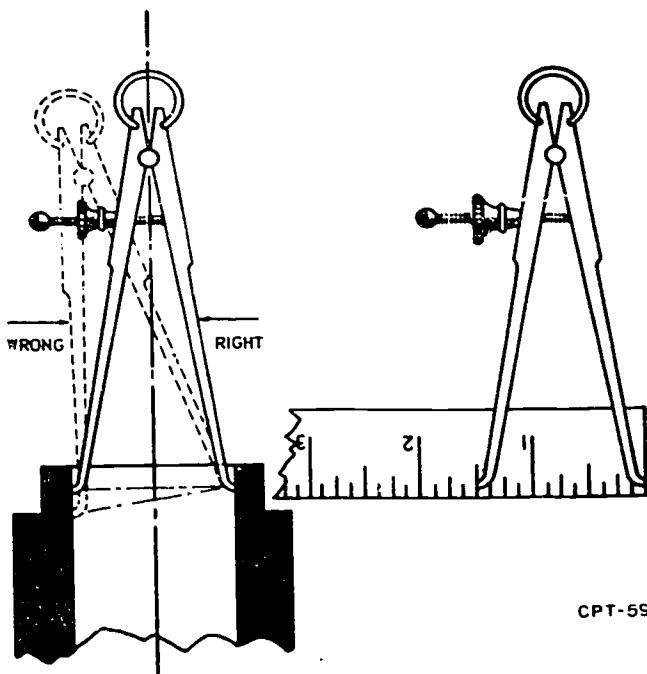

Figure 1-32. Using an inside caliper.
**Inside calipers.** The inside calipers, shown in figure 1-32, have curved legs for measuring inside diameters of holes, the distances between two surfaces, the width of slots, and other similar jobs. Notice how the legs of the inside calipers differ from the legs of outside calipers. The illustration shows how inside calipers should be held at right angles to the cylinder being measured. If they are held in a position labeled "wrong," the measurement will be incorrect. Inside calipers may be used to measure distances or to check an opening for a specified size.